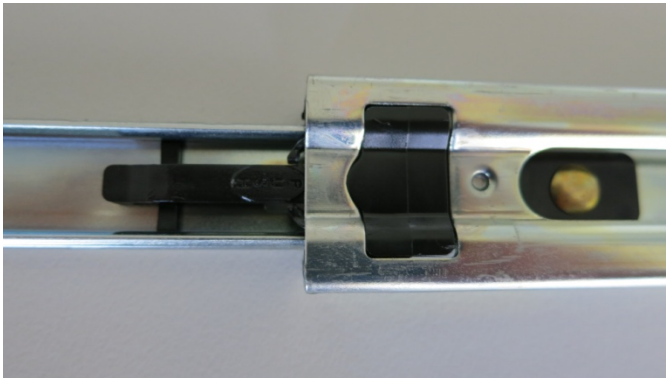

Figure 71 – Separate Rack Slides
2. Separate the slide rail assembly by pressing the black plastic clips in the slide rails to remove the inner section of the rail (refer to Figure 71).